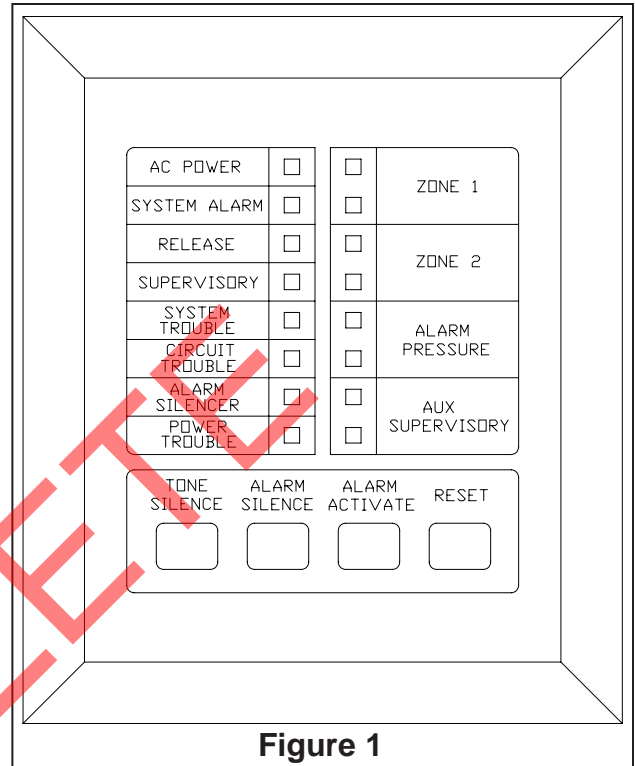

Figure 1
N. Front Panel Control Switches (Refer to Figure 1)